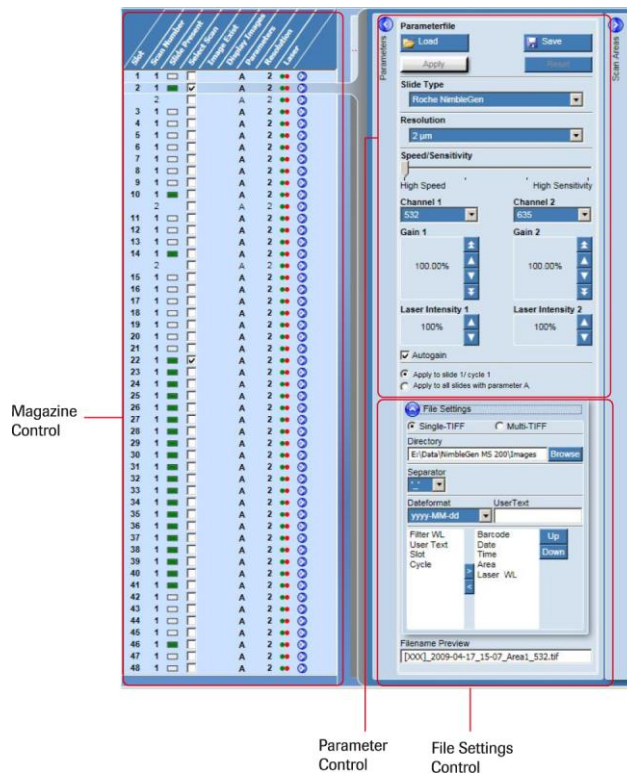

Figure 13: Magazine Control, Parameter Control, and File Settings Control
3. Confirm the Magazine Control pane (Figure 13) displays a green box in the *Slide Present* field for each slide loaded into the slide magazine.
Use the Parameter Control (Figure 13) to set the parameters to use for scanning.
Use the File Settings Control (Figure 13) to specify image file settings:
- Optional:* To save the file settings to a file, click **Save** in the Parameters Control (Figure 13).
3. Check the Autogain area box if the Autogain checkbox was selected in the Parameter Control (Figure 13).